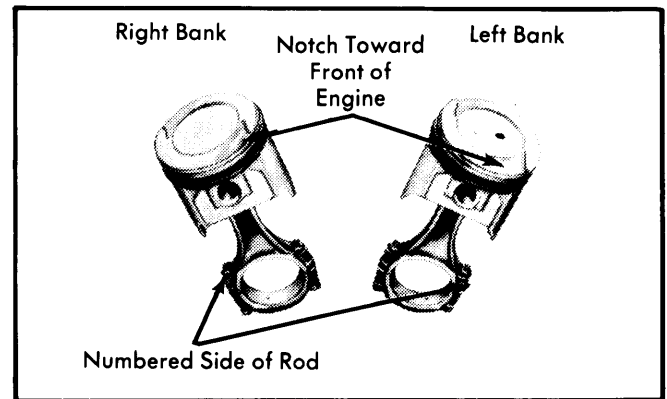

Fig. 9 Fitting Piston and Connecting Rod Assembly
2) Position piston on connecting rod as shown. See Fig. 9. Use arbor press to press piston pin into connecting rod and piston. See Fig. 10.